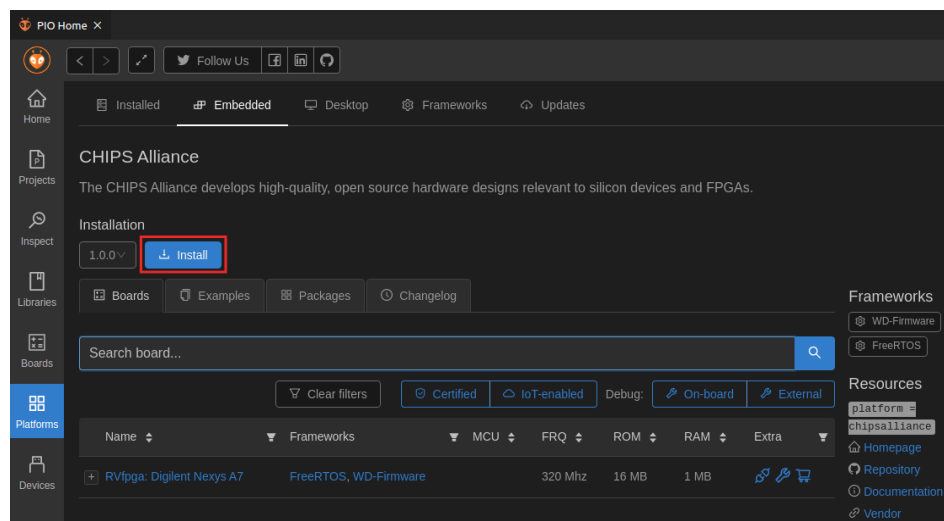

Figure 99. Installing the CHIPS Alliance Platform
- After clicking on the **CHIPS Alliance** button, you will see the details of the Chips Alliance platform (as in Figure 99). Install it by clicking on the **Install** button (Figure 99).